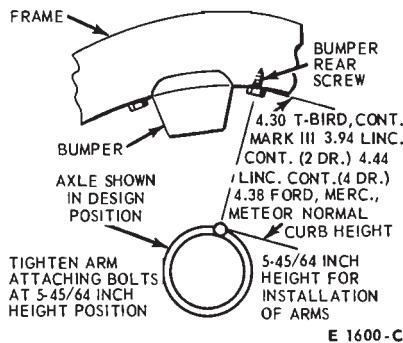

FIG. 14—Axe Normal Curb Height and Controlled Height for Arm Installation
12. Make sure that both the front and rear pivot bolts of the upper and the two lower arms are loose, and then raise the axle assembly to controlled curb height (Fig. 14). Hold the axle at controlled curb height by placing blocks or pieces of steel pipe